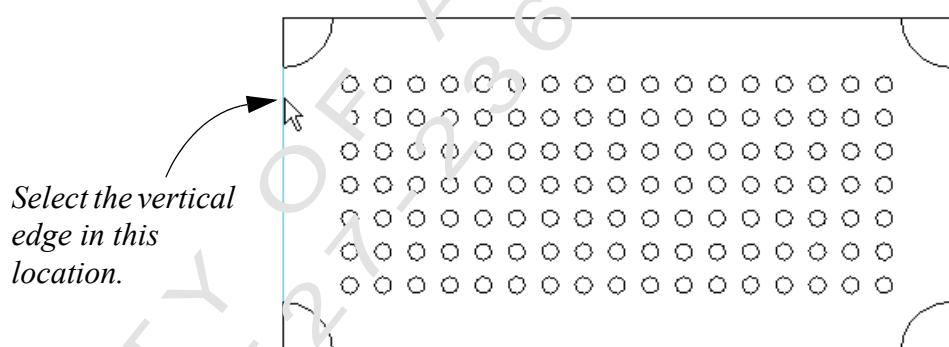

Figure 1–96
4. Select the vertical edge of the view in the location shown in Figure 1–96.
5. Move your mouse to the right side and select again to draw the first horizontal break line, as shown in Figure 1–97.